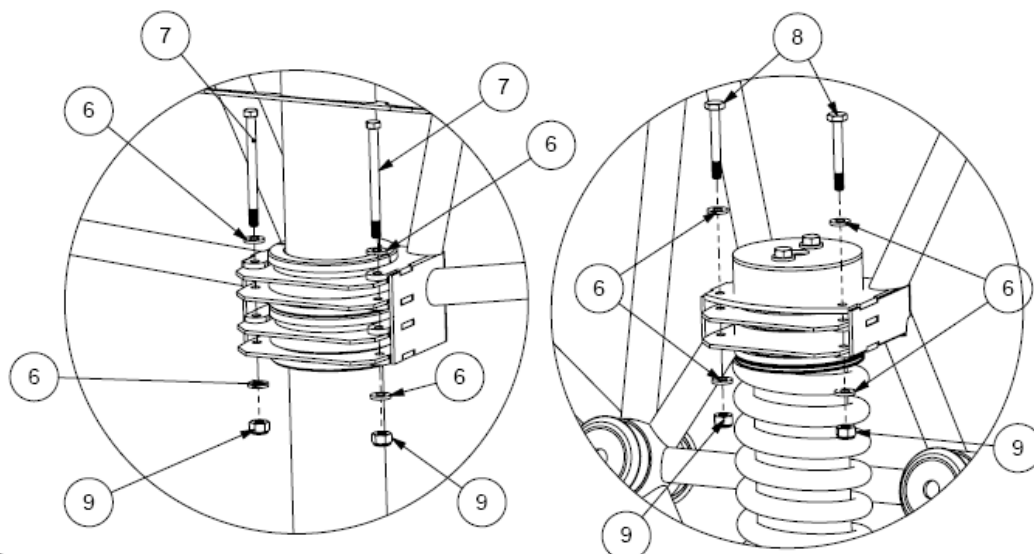

Figure 45: Nose gear installation.
- Tighten the lock-nuts sufficiently, observe the correct placement of washers and bearings (refer to Figure 45) and note that the bolts are installed with the bolt heads facing up.